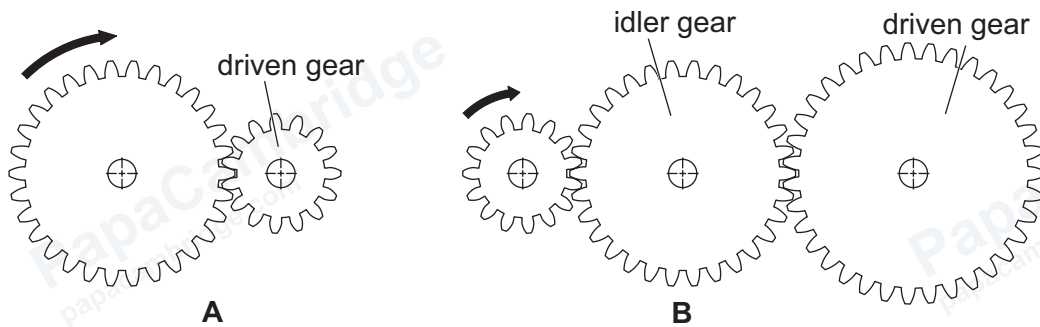

Figure 5.1
- (b) Figure 5.1 shows two arrangements of spur gears.